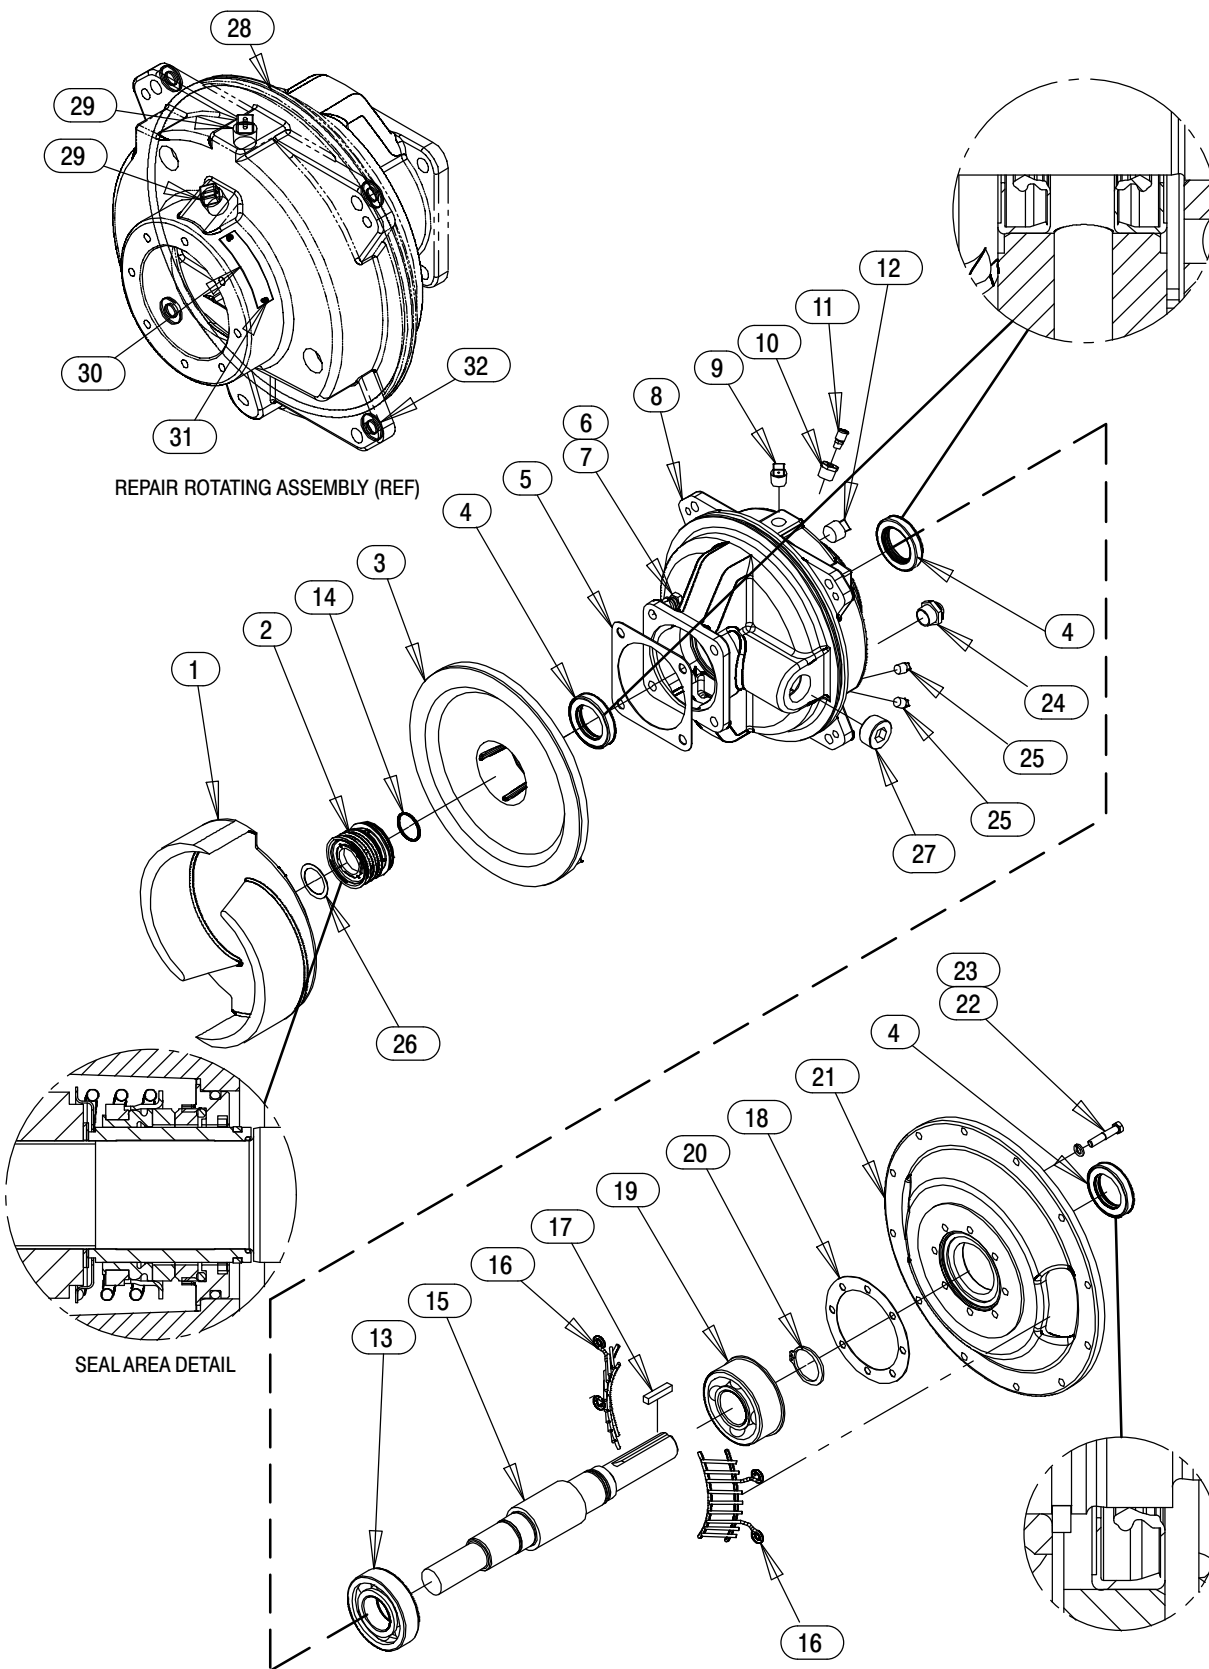

Figure 5. Repair Rotating Assembly
Disengage the hardware (6 and 7) securing the drive flange to the engine bellhousing, and remove the guards (16, Figure 5). Separate the pump end and drive assembly from the engine by pulling the pump end straight away from the engine.
As the assemblies separate, the flexible portion of the coupling assembly (3) will remain on the shaft. To remove the coupling from the shaft, unscrew the two allen head setscrews from the bushing (2). Screw one of the setscrews into the puller hole on the circumference of the bushing. As the coupling and bushing separate, remove the bushing, and slide the coupling off the shaft. Remove the shaft key (17, Figure 5).